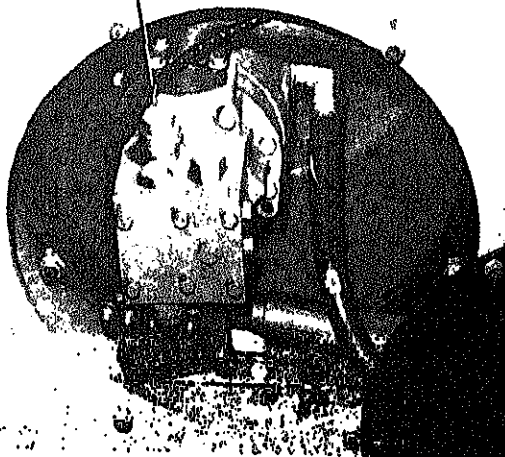

FIGURE 7-56.
a. Apply a wrench on HEX portion of the valve and unscrew from manifold block (see figures 7-56 and 7-57).